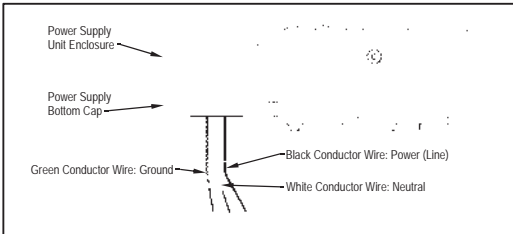

Figure 3. Power Supply Unit Input Conductor Wire Leads Identification
- A. Referring to Figure 3, there are three (3) power input Conductor Wire Leads extending from the Bottom Cap of the Power Supply Unit Enclosure. Depending on the specific Illuminator, a Junction Box may have been installed into the Bottom Cap, which in such case, the Conductor Wire Leads are accessible by removing the Junction Box Cover. The Junction Box may contain a Terminal Block to which the Conductor Wire Leads are connected depending on the Illuminator specifications. Whether exposed (as shown) or inside a Junction Box, the Conductor Wire Leads from the Power Supply Unit are color coded as noted below.